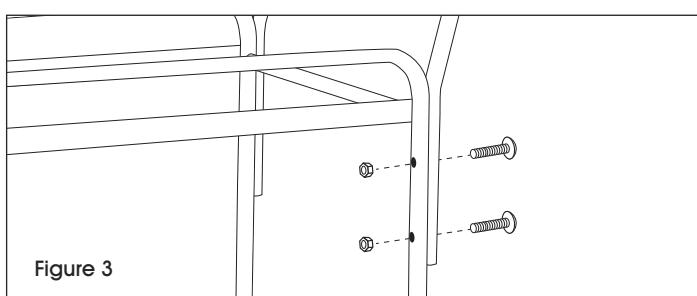

Figure 3
**NOTE:** The front of the cart assembly is the end with no handle mounting holes. (See Figure 3)
1. Turn cart upright and attach handle to rear of mail cart on both sides using bolts and nuts. (See Figure 3)